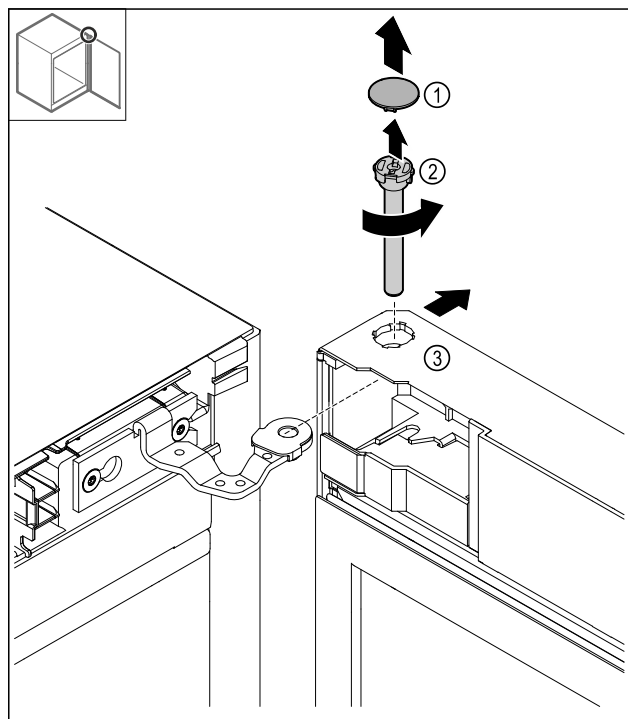

Fig. 19
- Take off the Fig. 19 (1) cover.
- Unscrew the pin Fig. 19 (2) counterclockwise and pull it out.
- Tilt the door Fig. 19 (3) slightly.